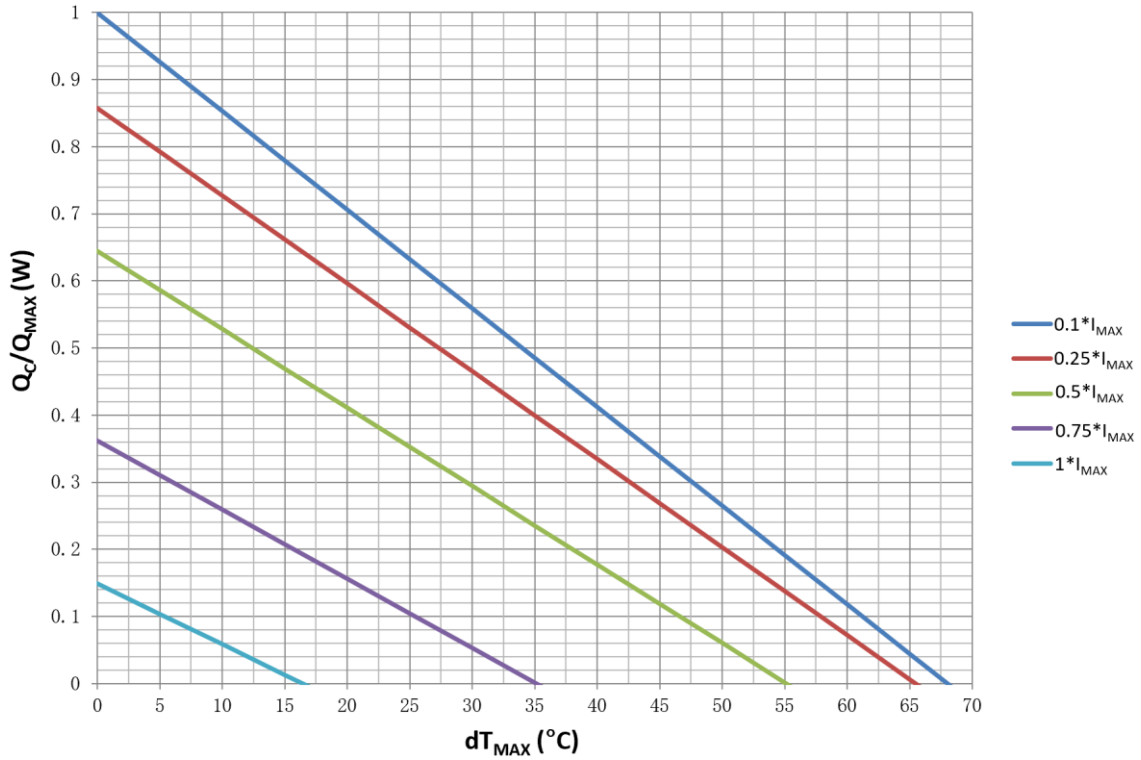
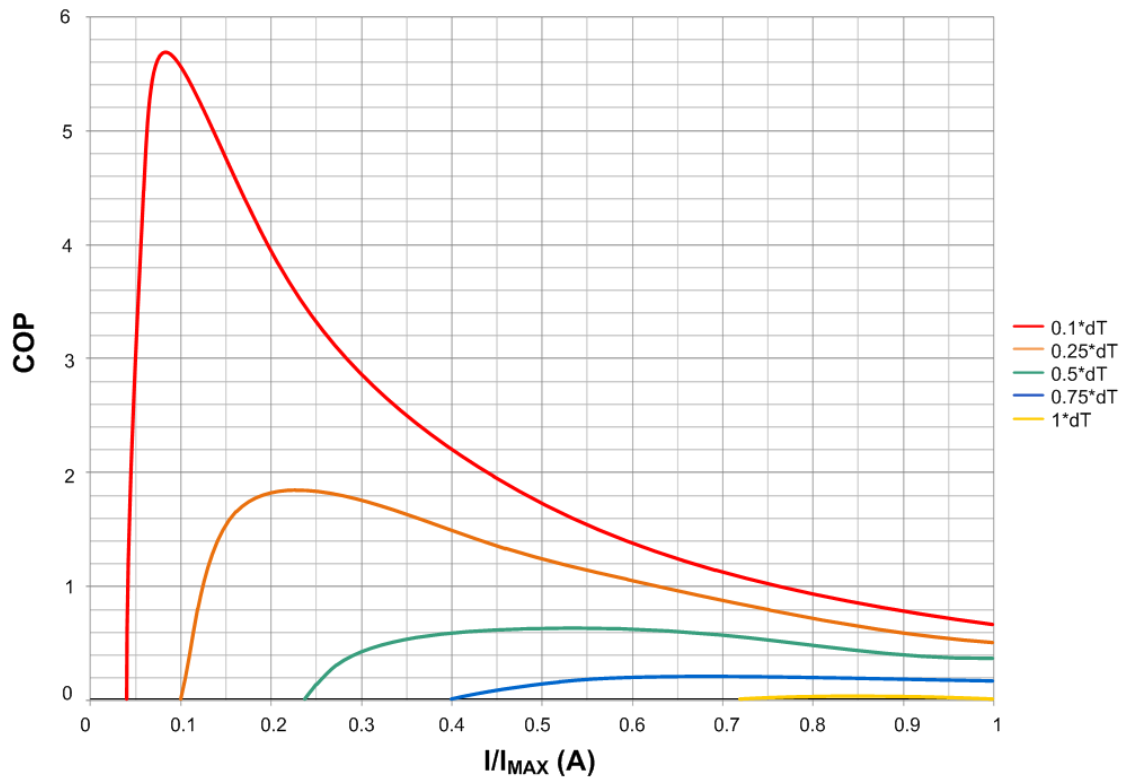

Figure 2. Q_c/Q_{MAX} vs. dT_{MAX}
Figure 5. COP vs. I/I_{MAX}
- Use the charts provided in Figure 2 to Figure 5, to decide which TEC to use, what is the heat needed to be dumped through the heat sink, what is the heat sink temperature, etc.